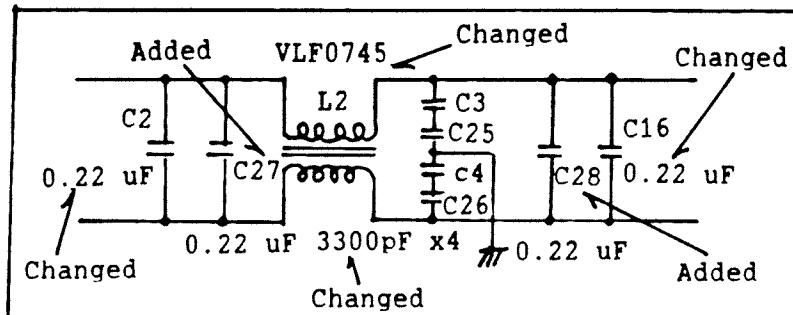

Fig. 1 Page 5-89 (F-3 4)
(1) Capacitors C2,C3,C4,C16,C25, and C26 and coil L2 have been changed.
(2) Capacitors C27 and C28 have been added as shown in figures 1 and 2.